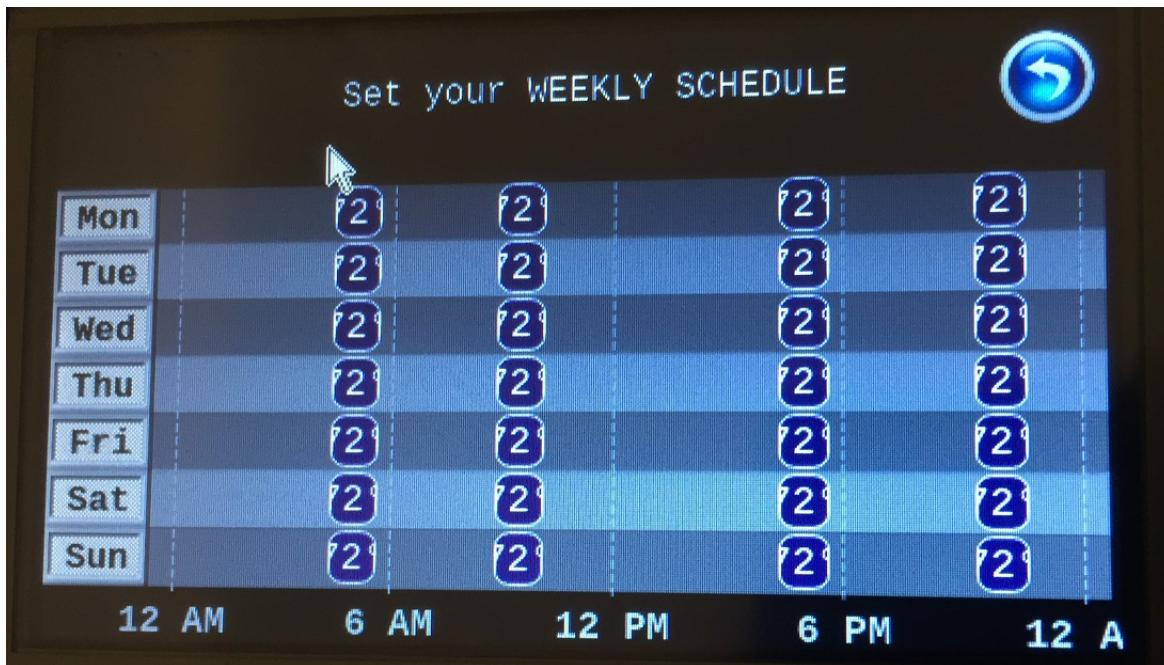

図 11. Smart Thermostat Demo GUI: Weekly Schedule Screen
6. The Scheduler icon in 図 9 leads to the weekly schedule screen shown in 図 11.